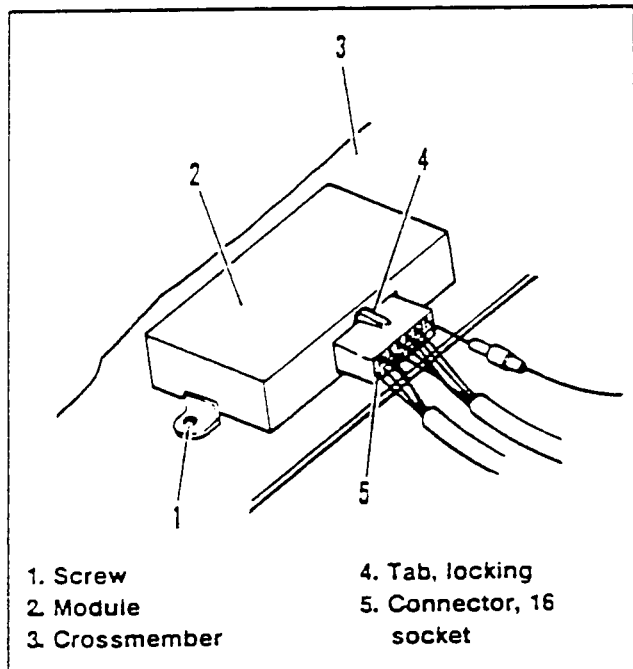

Figure 2. Module Mounting
3. See Figure 2. Remove two screws (1) attaching module (2) to crossmember (3) under seat.